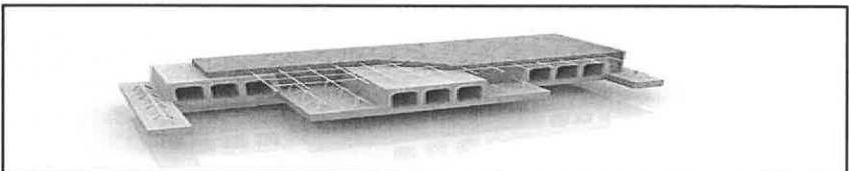

FIGURE 6.4
6.4 FIGURE 6.4 below illustrates a rib and block floor.